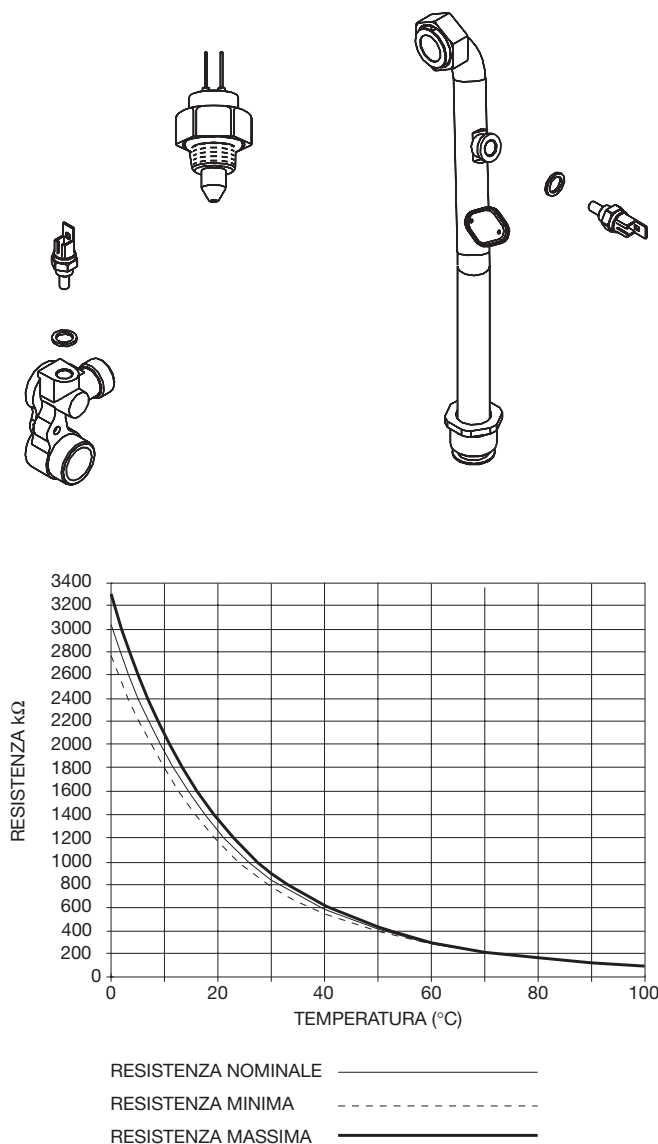

Fig. 2.21
2.17 Sonda controllo temperatura NTC (Fig. 2.21)